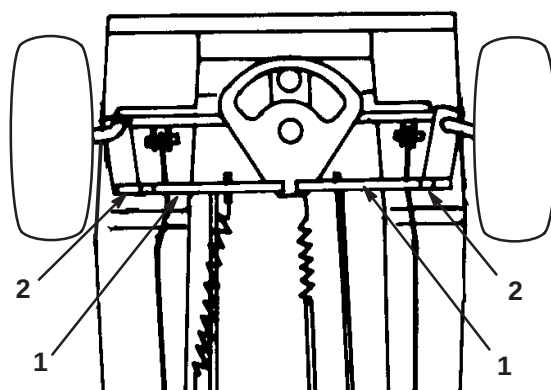

Figure 19
Maintain toe-in of the front wheels as specified. If uneven tire wear, lawn scuffing or hard steering develop adjustment may be required. Check the toe-in after every 100 operating hours or yearly, whichever occurs first (Fig. 19).
3. Measure, between the wheels, at spindle level, in the front and rear of the wheels (Fig. 19).
1. To align front wheels, loosen jam nut and turn tie rod end (there is only one adjustable tie rod) until center line distance across front of wheels ( $d'$ ) is .06 inch (1.5 mm) to .25 inch (6.3 mm) less than center line distance across rear of front wheels ( $d''$ ) (Fig. 19 & 20).